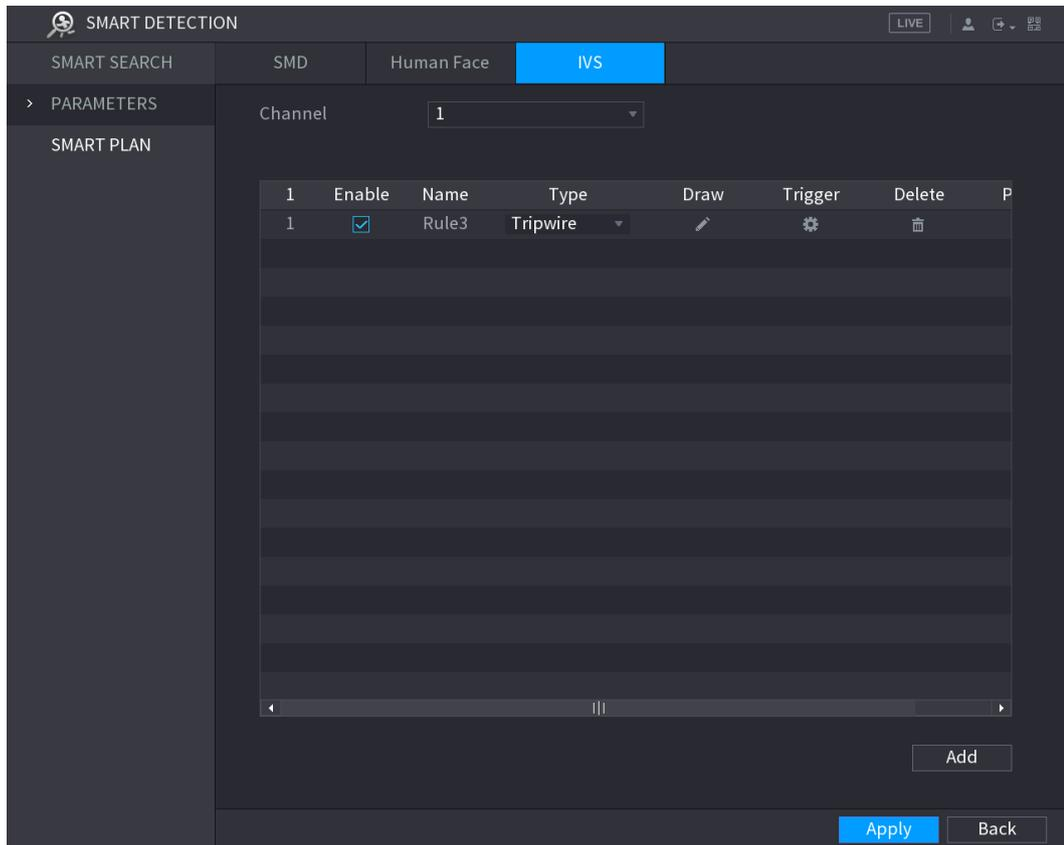

Figure 5-152
Step 1 On the rule line that you added, in the **Type** list, select **Tripwire**. See Figure 5-152.